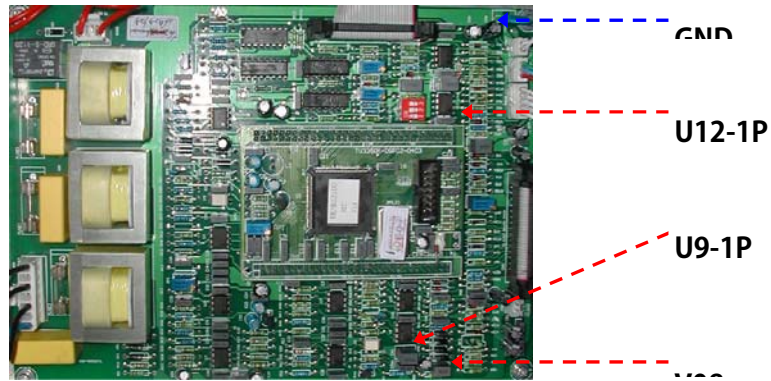

Figure 5-8 Rectifier over current or charge over current protection test
D. Diagnosis of rectifier over heat: When the rectifier over current protection enable, test the voltage between U9A-1P、 U12-1P or V8+ and GND (C64A left pin), if the value is about 5 VDC, it should be rectifier over current or over charge protection, as shown in figure 5-8. It may caused by rectifier output current sampling hall, charge current sampling hall, rectifier capacitor or rectifier SCR being bad.
E. Rectifier driver signal test: Turn off the power breaker, pull out CN12 of power backup and transfer board, as shown in figure 5-9. Close the power breaker again, test left pin of R98, R99, right pin of R100,R101,R102, upper pin of R103 to GND (left pin of C64A, as shown in figure 5-8) on the rectifier control board with a oscillograph, the signal wave shape tested should be 50Hz pulse group, as shown in figure 5-10. It can be tested with a multimeter, the value should be $1.0 \pm 0.2\text{VDC}$ 、 $1.4 \pm 0.2\text{Vac}$.